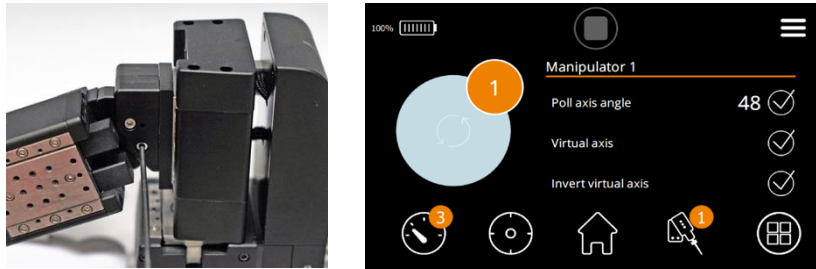

Figure 5. Adjusting approach angle
1. Support x-axis by hand and loosen two locking screws (Fig. 5, left).
3. Poll axis angle feature in the Setup section of the Manipulator settings menu shows current angle measured by the sensor in x-axis; feature should be switched off after installation (Fig. 5, right).